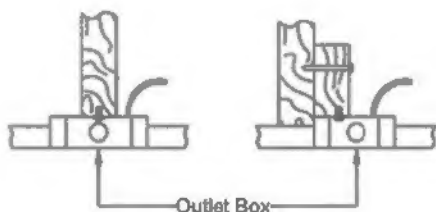

Fig.1
3. Figure 1,2 and 3 are examples of different ways to mount the outlet box in different situations. A longer down rod may be required in sloped ceiling situations to maintain proper blade clearance.